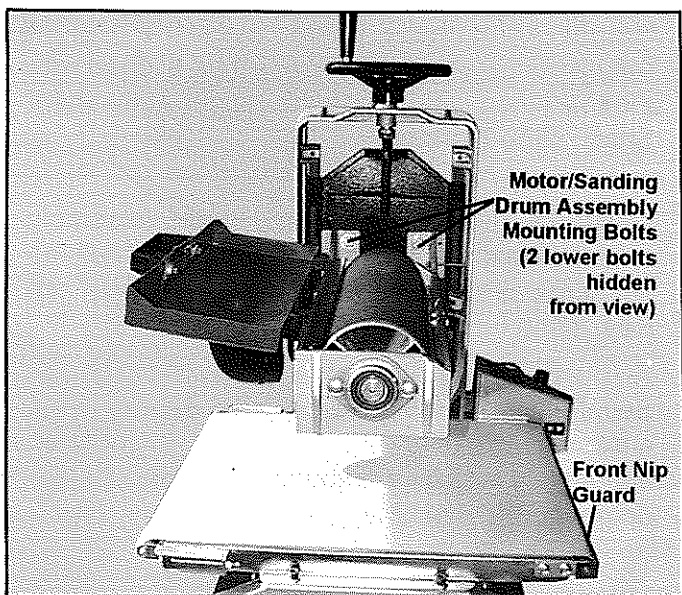

Figure 8
11. **STOP THE MACHINE** and recheck the motor/drum mounting bolts and feed rollers for tightness after about 50 hours of operation. (See Figure 8.)
- 3. **Loose Motor/Sanding Drum Assembly Mounting Bolts.** (See Figure 8.) Check the tightness of the four (4) bolts, 2 upper and 2 lower, and tighten as needed.